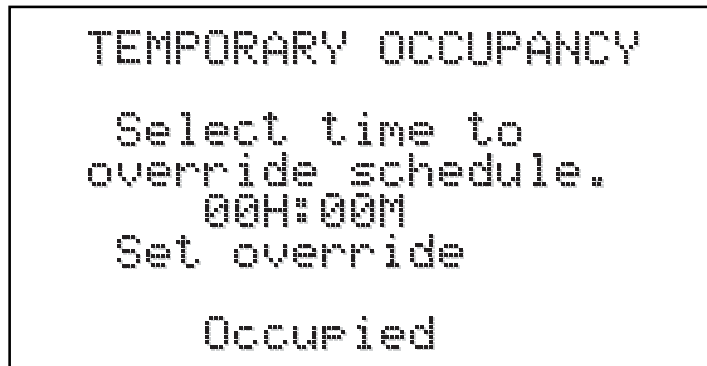

Figure 18
4.3.3.5 Temporary Occupancy (Figure 18)